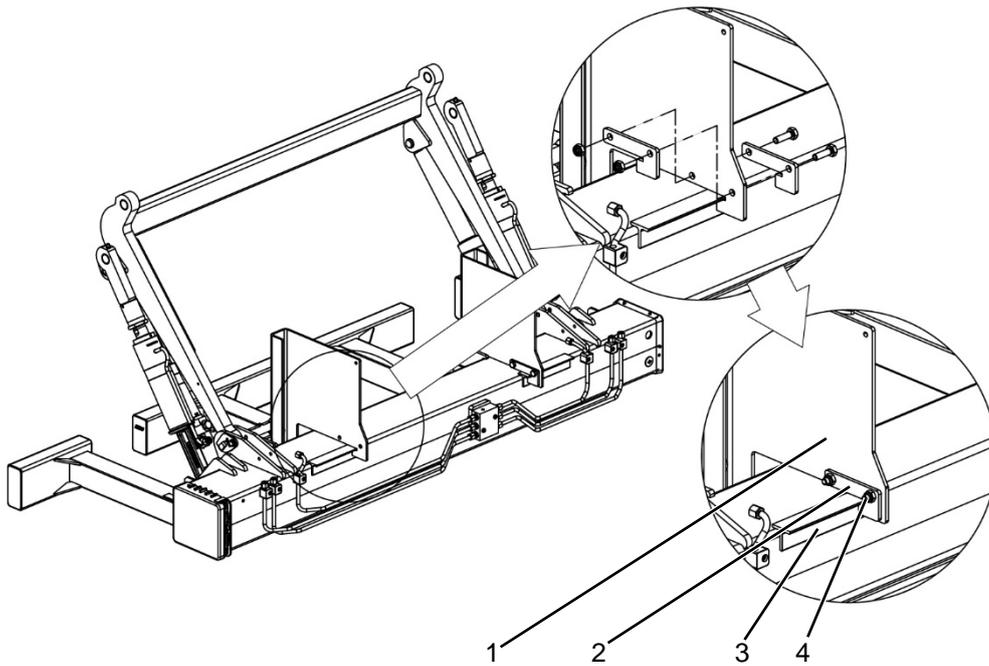

Figure 11: Reinforcement of the console plates
On the C 1000 S and C 1500 L tail lifts, the console plates must be reinforced with the mounting kit (item no. 2030247) (see Figure 11, page 32).
- ▶ Place the plates against the console plates on both sides and hook them behind the T-profiles (see Figure 11).